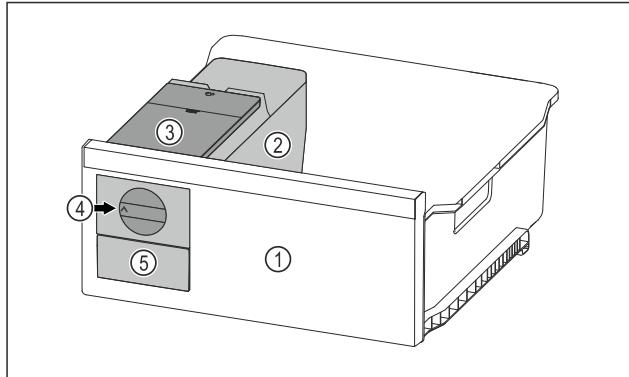

Fig. 69 Example illustration
▶ Turn the rotary knob Fig. 69 (4) clockwise as far as it will go.
▶ Ice cubes fall from the ice cube tray into the ice cube drawer Fig. 69 (5).